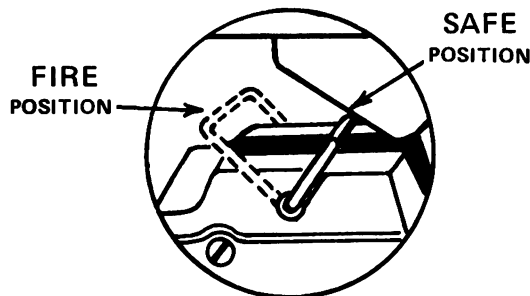

Figure 10.
c. Prior to connecting the firing device to the firing wire, make certain that the safety bail is in the **SAFE** position (figure 10) and all friendly troops within 250 meters to the front and sides and 100 meters to the rear of the mine are under cover. **Do not connect the firing device to the firing wire until actual time of firing.**
7. **Firing the Mine.** To fire the mine, remove dust covers from the firing device and firing wire and connect the firing device to the firing wire. When the lead elements of an enemy formation approach within 20 to 30 meters of the mine, position the firing device safety bail in the **FIRE** position (figure 10) and actuate the firing device handle with a firm, quick squeeze.